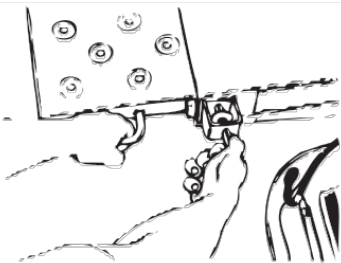

Figure 6
- ❑ If you have a tow dolly with pullout loading ramps (Figure 6 and 7), pull both ramps completely out for loading. To release the loading ramp pull and hold the (spring-loaded) ramp release pin outward. Pull the ramp out rearward a short distance, then release the pin.
- ❑ If you have a tow dolly with pullout ramps (Figure 6 and 7), lift and push the loading ramps back into the storage compartments inward until the pin engages the hole in the ramp.
- ❑ If you have a tow dolly with pullout loading ramps (Figure 6 and 7), pull both loading ramps completely out. To release the loading ramp pull and hold the (spring-loaded) ramp release pin outward. Pull the ramp rearward a short distance, then release the pin. Continue pulling the ramp out until it stops, then lower it to the ground. Both ramps must be pulled out completely to properly unload the vehicle-in-tow without damaging the tow dolly or the vehicle-in-tow.